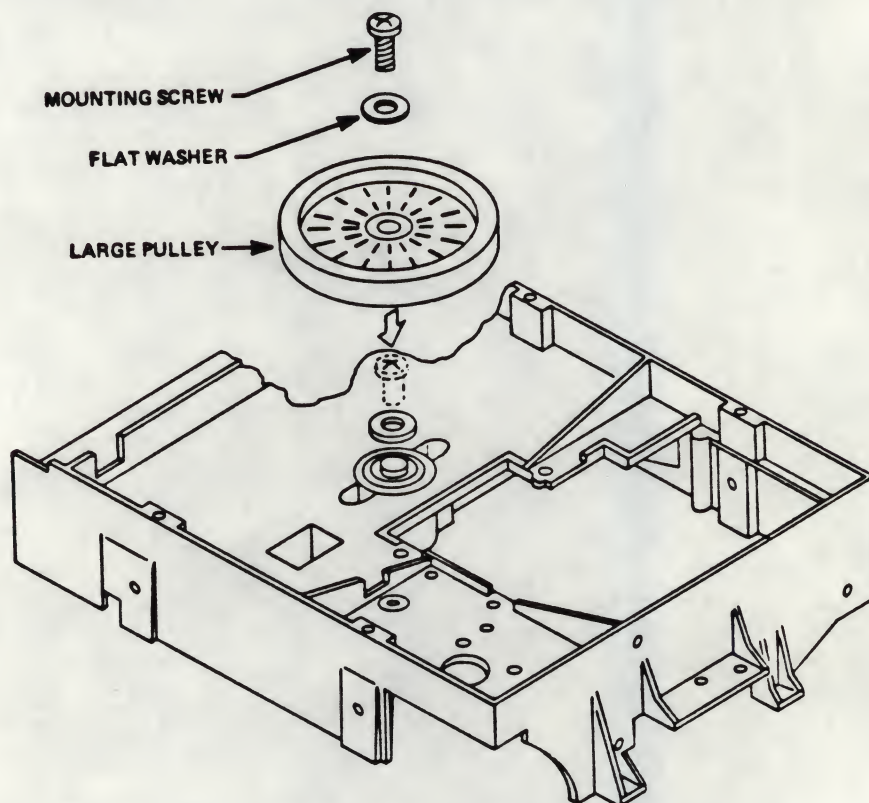

Figure 5-30
- 5.15.5 With a Phillips screwdriver, while holding the hub, remove the mounting screw and washer from the Spindle Assembly (see Figure 5-30).
- 5.15.6 Remove the large pulley from the bottom of the chassis (see Figure 5-30).
- 5.15.14 With a Phillips screwdriver, while holding the hub, insert the large pulley, flat washer, and the mounting screw into the bottom of the chassis (see Figure 5-30).
- 5.15.15 While holding the hub, tighten the mounting screw (see Figure 5-30).